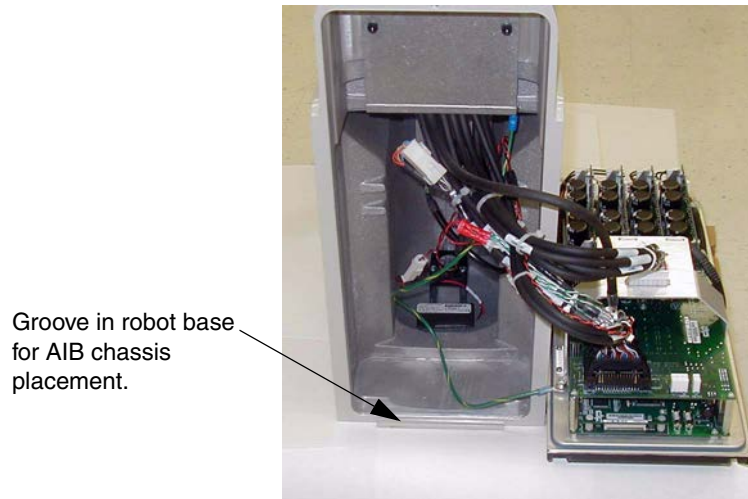

Figure 5-6. Installing AIB Chassis in Robot Base
9. Carefully insert the chassis into the robot base in the groove at the bottom of the base - see Figure 5-6. Tilt the chassis up and into place against the robot, making sure that none of the cables get trapped or pinched and that the chassis O-ring is not damaged during installation.